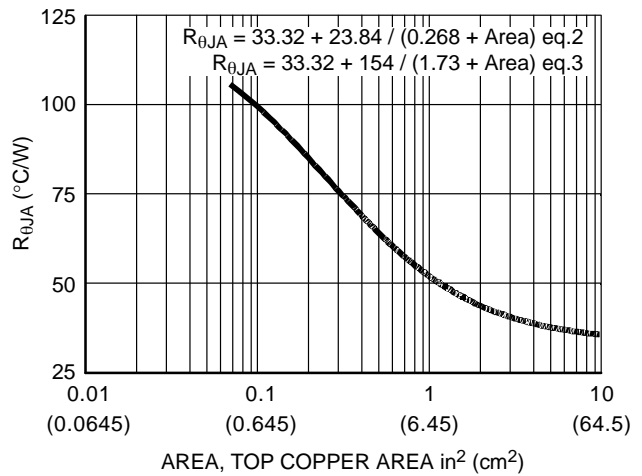

Figure 21. Thermal Resistance vs. Mounting Pad Area
**onsemi** provides thermal information to assist the designer’s preliminary application evaluation. Figure 21 defines the  $R_{\theta JA}$  for the device as a function of the top copper (component side) area. This is for a horizontally positioned FR–4 board with 1 oz copper after 1000 seconds of steady state power with no air flow. This graph provides the necessary information for calculation of the steady state junction temperature or power dissipation. Pulse applications
Thermal resistances corresponding to other copper areas can be obtained from Figure 21 or by calculation using Equation 2 or 3. Equation 2 is used for copper area defined in inches square and Equation 3 is for area in centimeters square. The area, in square inches or square centimeters is the top copper area including the gate and source pads.